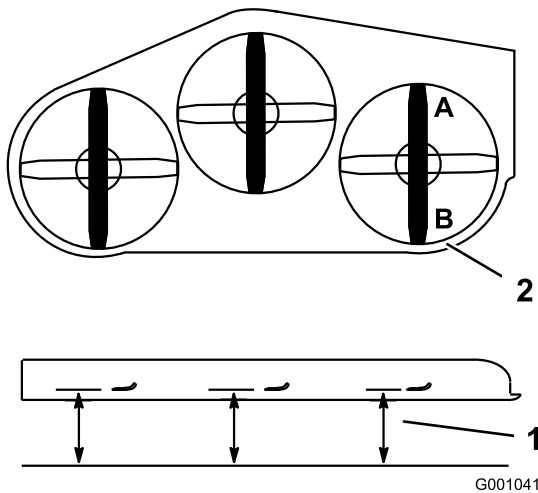

Figure 83
- Position the **right** blade front-to-rear (Figure 83).
- Measure the right blade at the **A** location, from a level surface to the cutting edge of the blade tip (Figure 83).
- Measure the right blade at the **B** location, from a level surface to the cutting edge of the blade tip (Figure 83).
- The mower blade should be a 1/4 to 3/8 inch (6 to 10 mm) lower at position **A** than at position **B** (Figure 83). If it is not correct, proceed to the following steps.